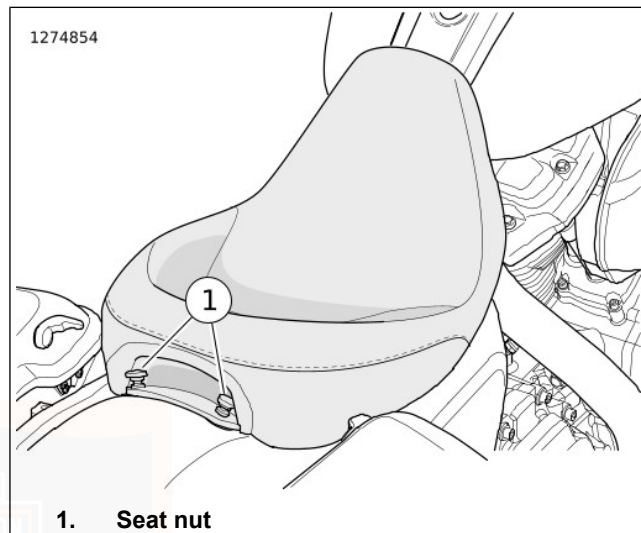
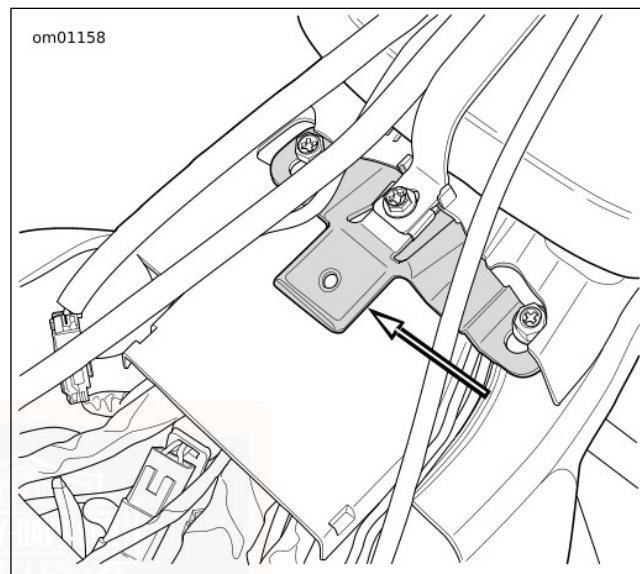

Figure 100. Solo Seat
Figure 102. Seat Tongue
1. See Figure 100. Remove seat.
- a. Remove seat nuts (1).
- b. See Figure 102 and Figure 103. Raise rear of seat. Pull seat rearward to disengage the tongue from the slot in the seat.
5. See Figure 102 and Figure 103. Raise rear of seat. Pull seat rearward to disengage the tongue from the slot in the seat.
1. See Figure 100. Install seat.
- a. See Figure 102 and Figure 103. Align seat slot with tongue behind the fuel tank. Push seat forward to engage seat.
- b. Install seat nuts (1).
1. See Figure 102 and Figure 103. Align seat slot with tongue behind the fuel tank. Push seat forward to engage seat.